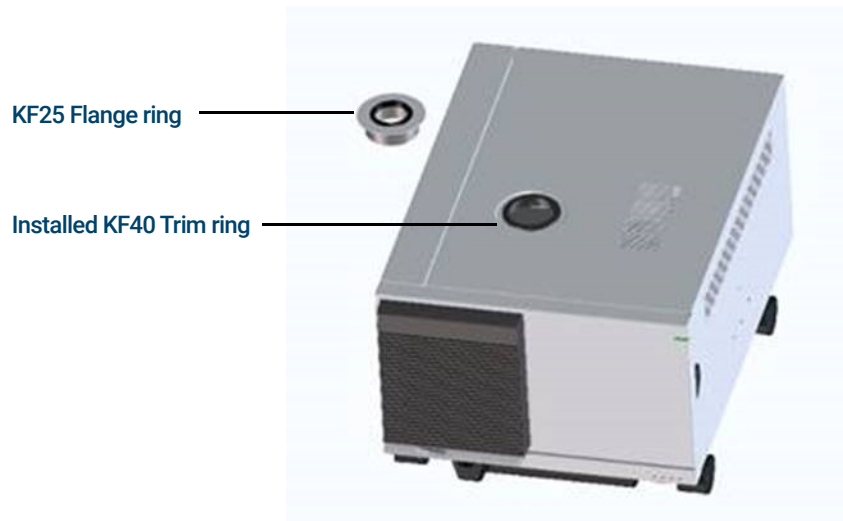

Figure 4. Installing the KF40 foreline trim ring
- 2 Install the KF40 Trim ring. See Figure 4.